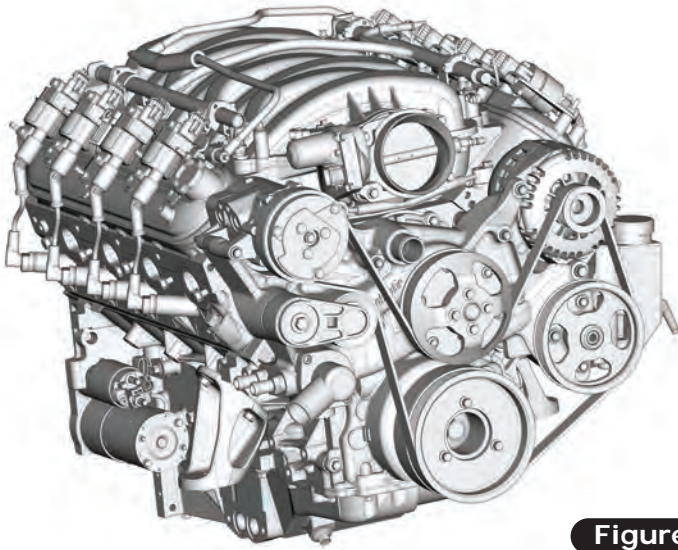

Figure 1
1. Insert a 1/2"-drive ratchet or breaker bar into the socket on the tensioner, and rotate it clockwise to the tensioner stop. **NOTE: Do not force tensioner beyond stop or damage will occur.** Route the belt around the crankshaft pulley, power steering pulley and alternator, and over the compressor. Finally, pull the belt down and slide it under the water pump pulley (See Figures 1 and 2, below). Belt will be a snug fit passing over the lip of the water pump pulley.